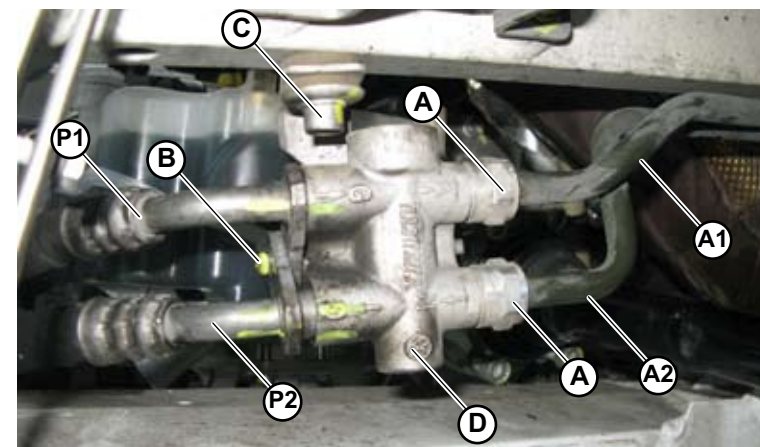
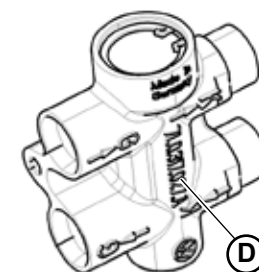

Fig.12
Fig.13
1. Unscrew the nuts (**A-Fig.12**) and disconnect the front **A1** and **A2** pipes from the temperature regulator.
2. Loosen the fixing screw (**B-Fig.12**) and disconnect the rear **P1** and **P2** pipes from the temperature regulator.
3. Loosen the screw (**C-Fig.12**) fixing the temperature regulator to the chassis.
4. Remove and extract the temperature regulator (**D-Fig.12; D-Fig.13**).